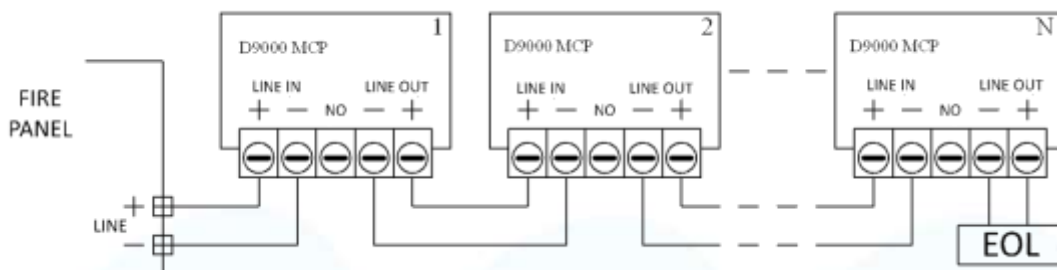

Fig. 2
- This option is obtained by cutting the bridge on the board with mounting chucks. (Fig. 2);